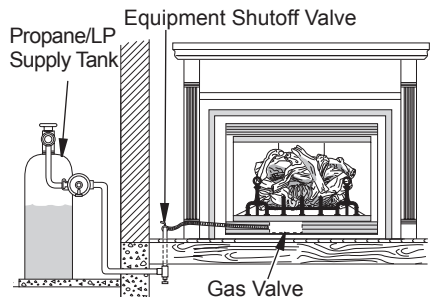
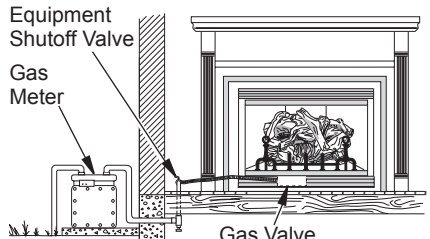

Figure 34 - Checking Gas Joints for Propane/LP Gas Fireplace
Figure 35 - Checking Gas Joints for Natural Gas Fireplace
3. Check all joints from propane/LP supply tank or gas meter to equipment shutoff valve (see Figure 34, for propane/LP or Figure 35, for natural gas). Apply noncorrosive leak detection fluid to all joints. Bubbles forming show a leak. Correct all leaks at once.
4. Check all joints from equipment shutoff valve to gas valve (see Figure 34, page 23, for propane/LP or Figure 35, page 23, for natural gas). Apply noncorrosive leak detection fluid to all joints. Bubbles forming show a leak. Correct all leaks at once.